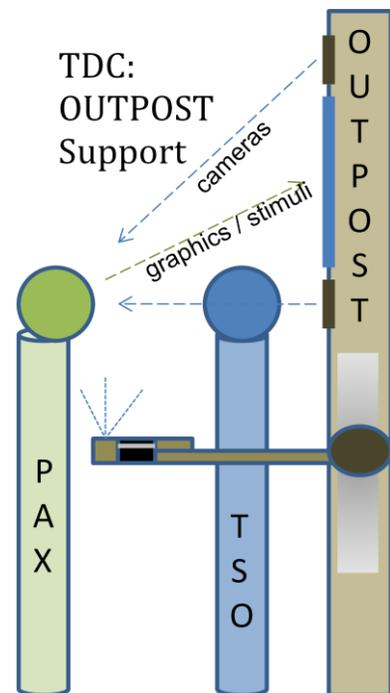

Figure-3b
- Figure-3b TDC with OUTPOST Implementation
typical TDC station; passengers (PAX) present identification (ID) and boarding pass (BP) to the Transportation Security Officer (TSO) operating the TDC Podium. Most TDC screening is manual, with occasional assistance from standalone Credential Authentication/Boarding Pass Screening Systems (CAT/BPSS) mounted on a nearby stanchion. Video surveillance of the transaction is usually provided by a camera mounted on a distant wall or ceiling. **Figure-3b**, illustrates TDC security enhancements possible with OUTPOST implementation.